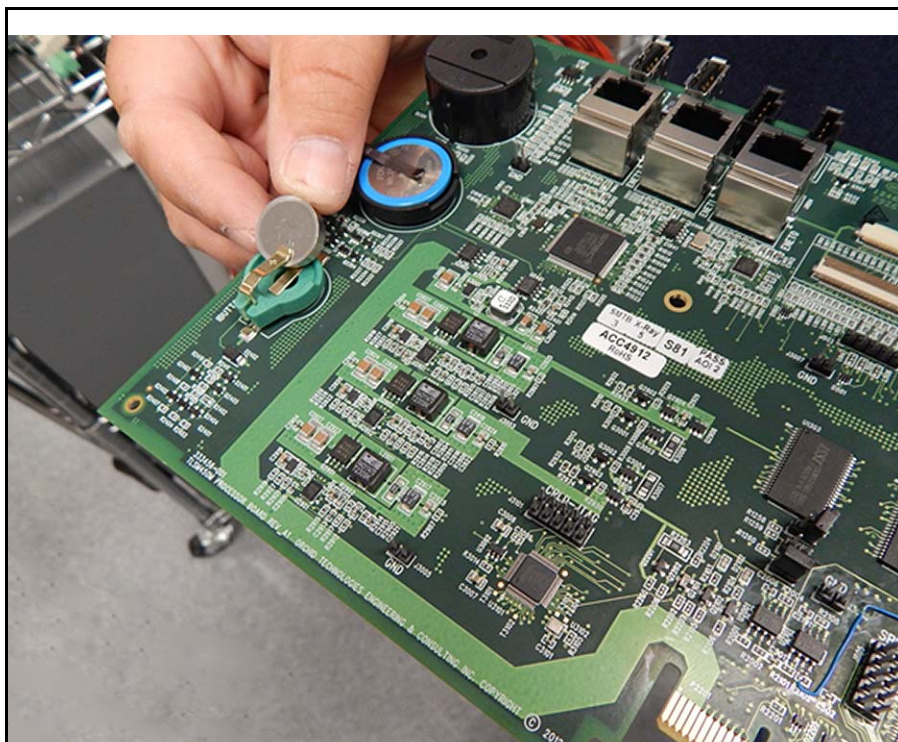
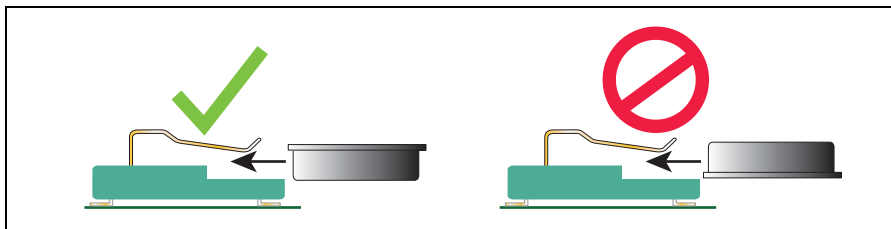

Figure 17. Locating TLS-450PLUS CPU Board iButton
Figure 18. Install iButton Flange Facing Up
3. Locate the iButton on the top rear of the TLS-450PLUS CPU board (see Figure 17. Remove the iButton from its socket on the board. Slide the replacement iButton into the socket with its flanged side facing up in the socket (see Figure 18).